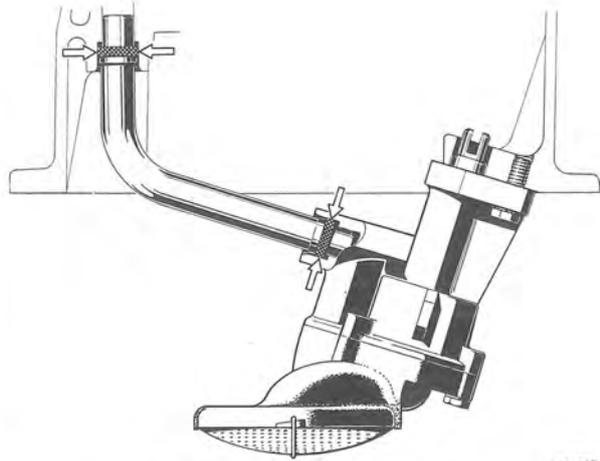

**Fig. 2-46. Distributor drive position**
When No. 1 cylinder is at top dead centre, fit the oil pump drive and distributor. The small part at the groove is turned obliquely upwards-backwards and the groove set at an angle of 35° to the longitudinal axis of the engine, see Fig. 2-46 (A). Make sure that the shaft goes down into its groove in the pump shaft.